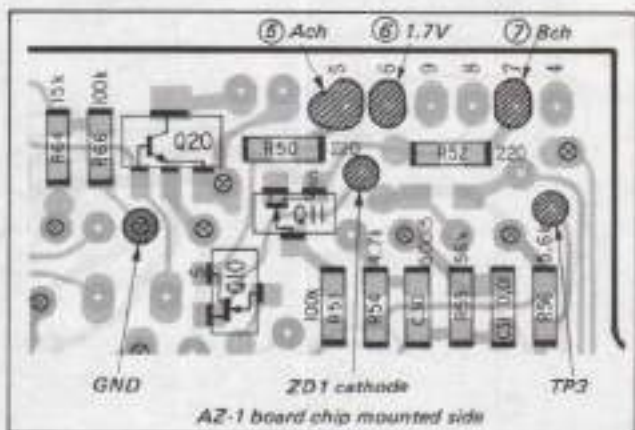

Fig. 2-47
(Fig. 2-47)
- 2) Connect GND to the 1.7V line (⑥). (Fig. 2-47)